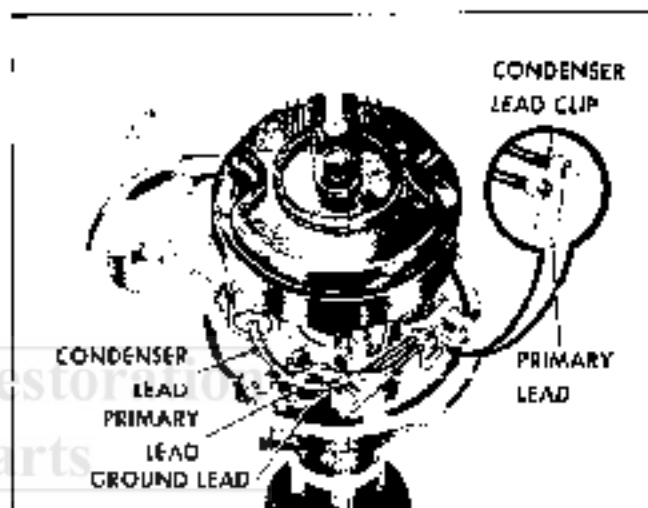

Fig. 6E-25 Arrangement of Leads
2. Remove condenser lead and primary lead from nylon insulated connection (Fig. 6E-25) to contact set.
CARNING: Make sure condenser lead and primary lead are located as in Fig. 6E-25. Leads must be properly located to eliminate interference between leads and cap, weight base or breaker plate.